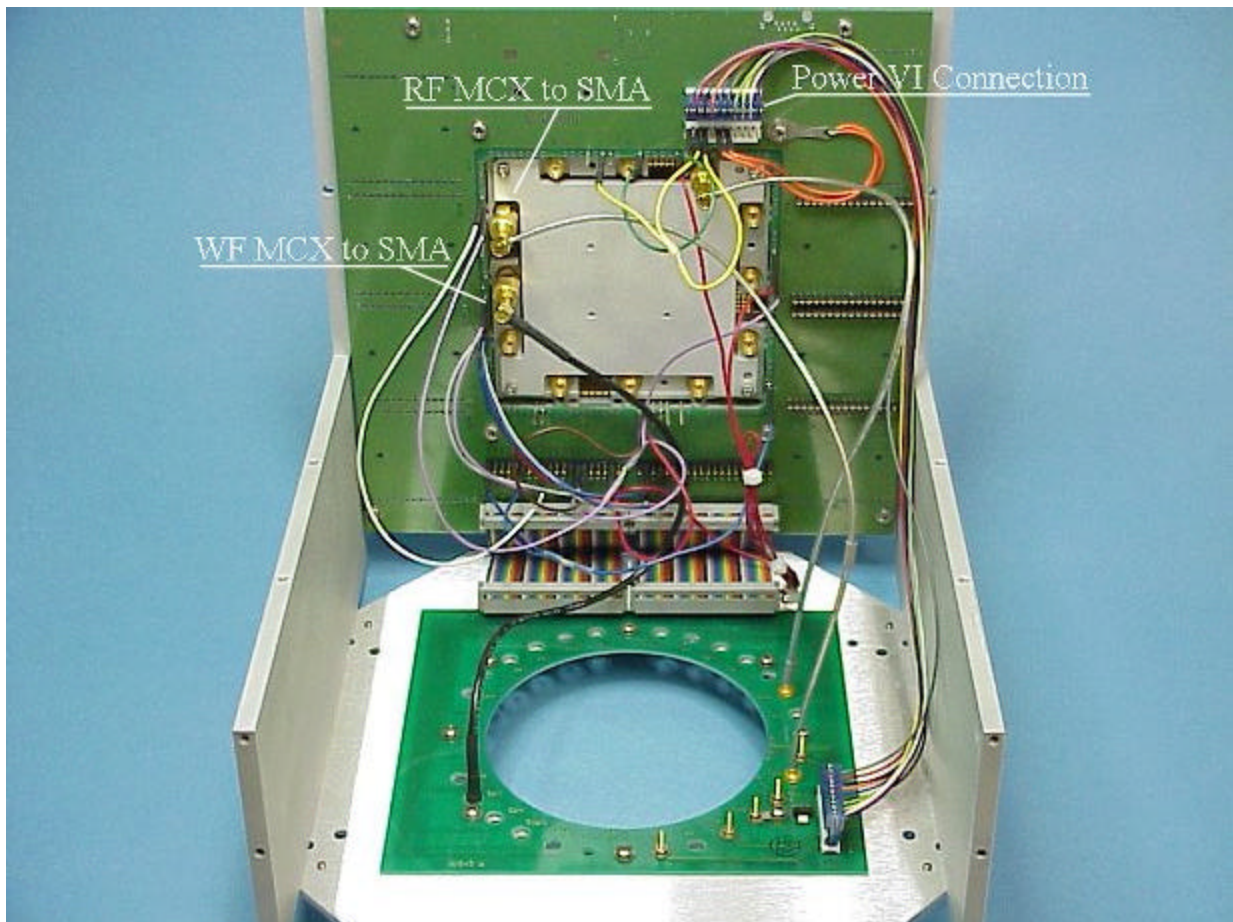

Figure 1.
1. The fixture should be configured as shown in Figure 1. This allows easy access to the RF, static digital, and other pins attached to the DIB. Install it onto the test head and activate the software fixture.